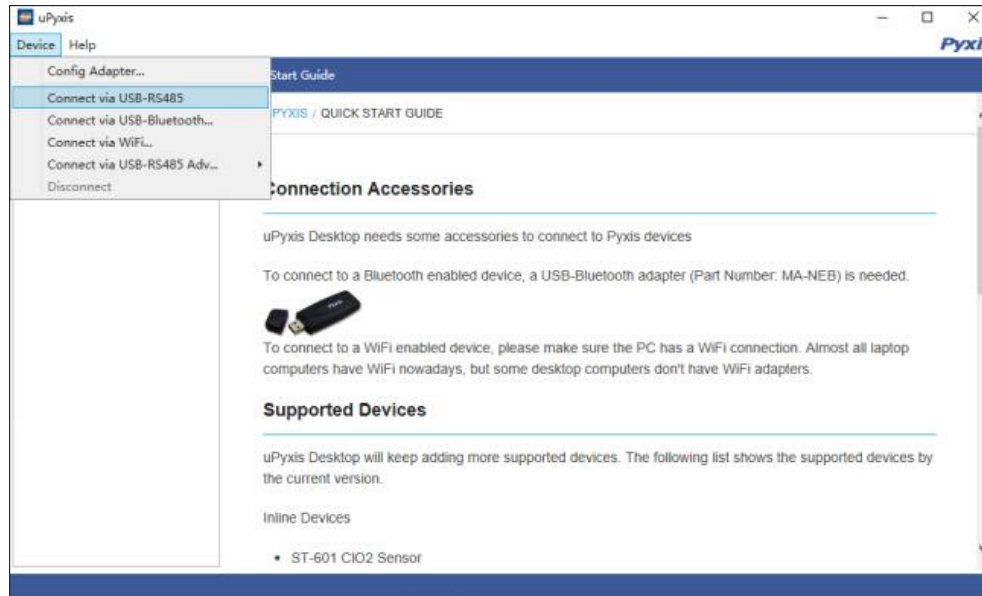

Figure 8. Connection Options
3. Select **Connect via USB-RS485** (Figure 8).